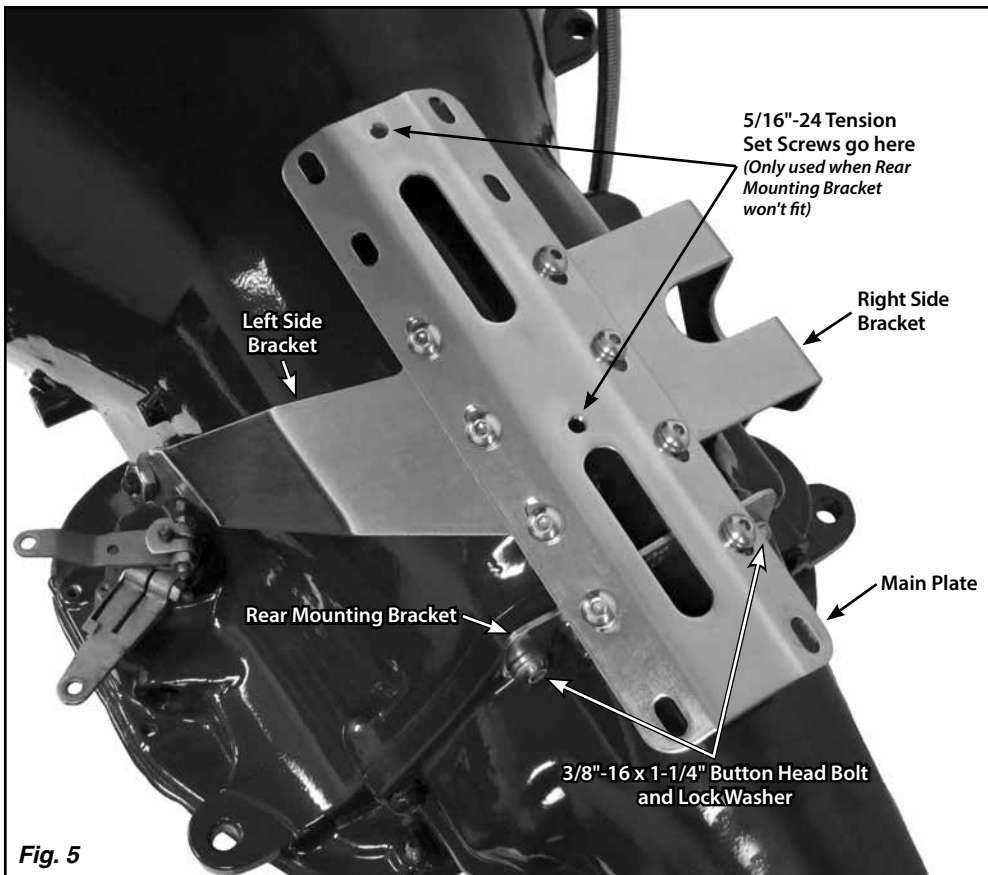

Fig. 5
**Step 7:** Tighten all of the bolts on the left side, right side, and rear (if applicable) mounting brackets. **Fig. 5**